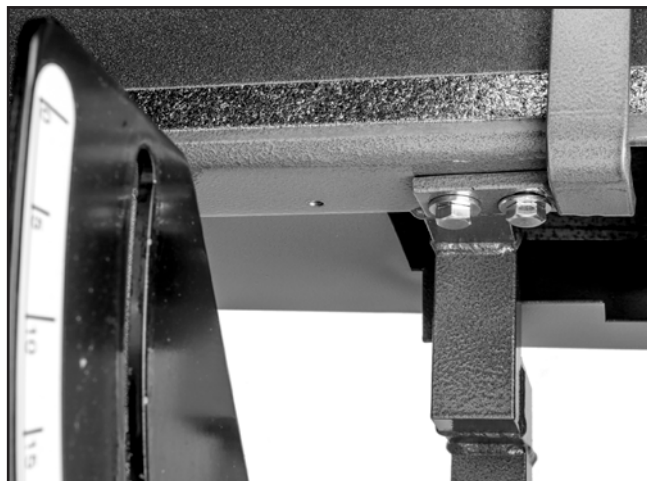

Figure 6. Back stop installed.
2. Slide back stop onto hex bolts and tighten, allowing $\frac{1}{8}$ " clearance from belt to bottom of the back stop, as shown in **Figure 6**.